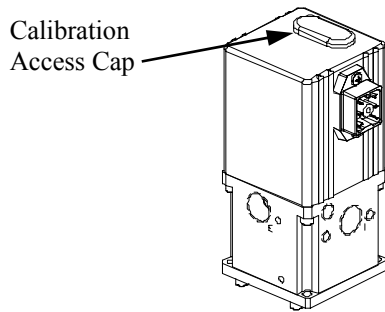

Figure 2
4. Locate the plastic oblong Calibration Access Cap on top of the QB3 valve and remove it (Figure 2)